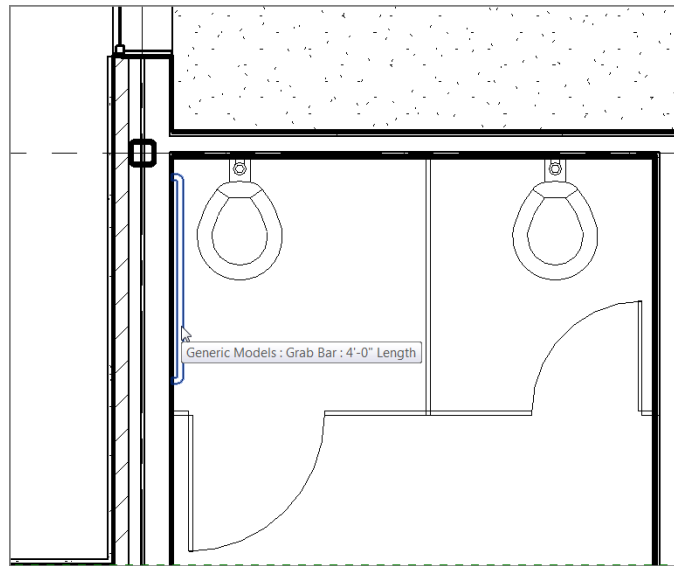

FIGURE 9.42: Adding the grab bar family to the wall
1. Zoom in on the accessible stall, as shown in Figure 9.42.
4. Place the grab bar along the wall (see Figure 9.42).